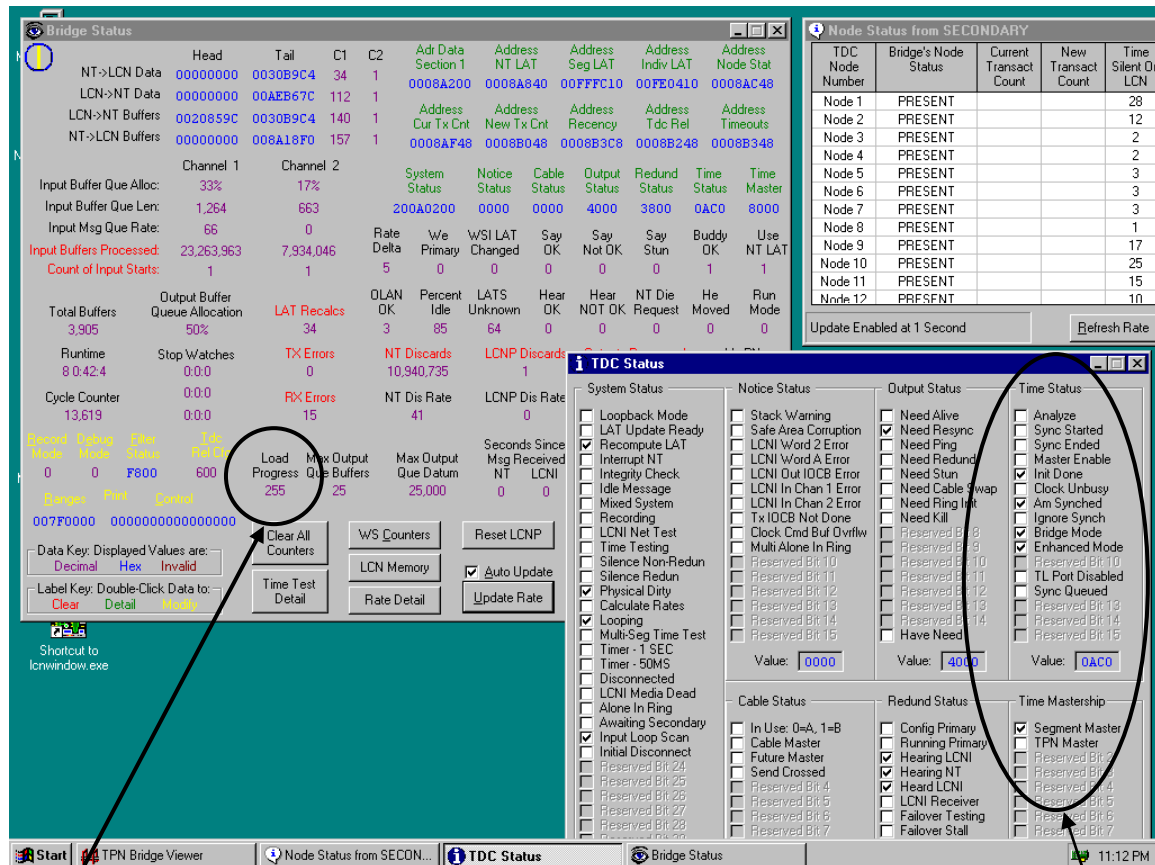
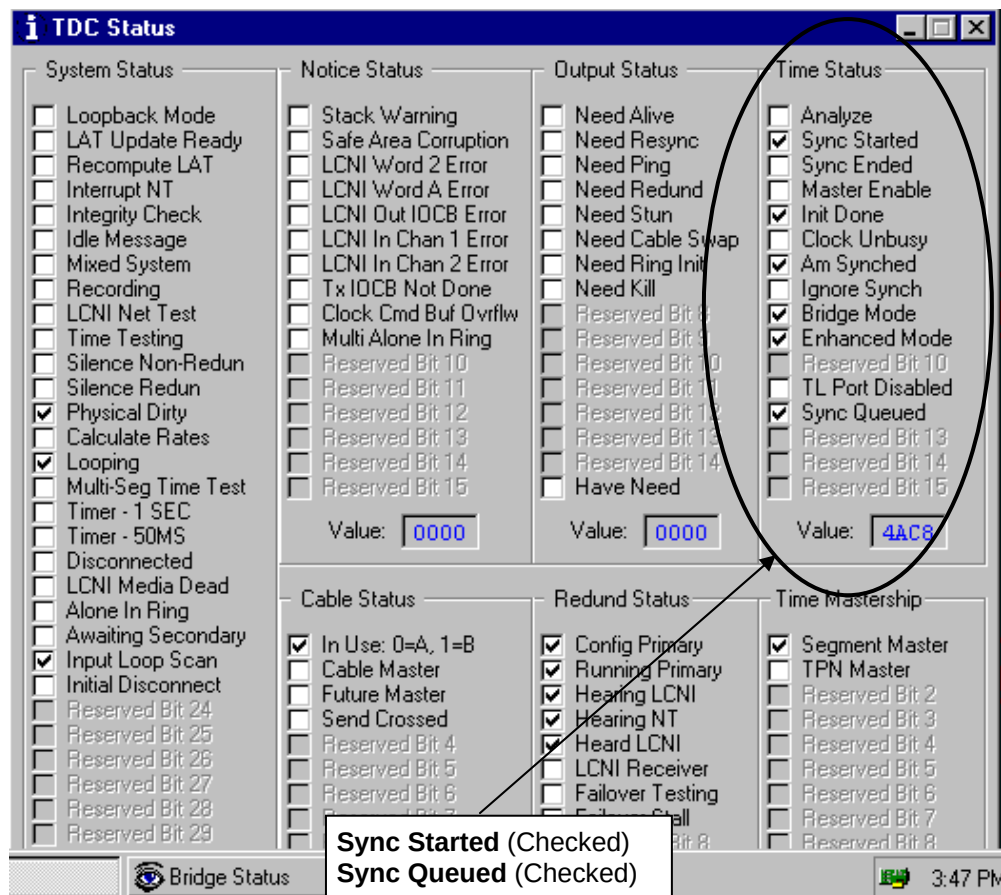

Figure 2-5
Figure 2-6 TDCStatus – Momentary Sync State Change
2. The TPN Bridge Node performs a Sync sequence that can be observed with close observation of the TDC Status display. The sequence is demonstrated in Figure 2-5 and Figure 2-6.
When a Time Link cable connection is made into the Time Link port of a Non-TPN Master TPNB assembly (or TPN Master which is a Secondary Bridge) a sync state change occurs within the TPN Bridge node. This sync state change happens over the period of a small number of seconds from the time that the Time Link cable is inserted (or removed) into/from the Time Link port of the TPNB assembly. The following figure shows a typical change in synchronization state that may be observed (if a user is monitoring the TDC Status Display while a second person performs the Time Link cable insertion). This state change should last a few seconds followed by a return to the normal (steady state) sync state as indicated in Figure 2-5.
NOTE: If a second person monitors the TDC Status display while the Time Link cable is being inserted, the second person should observe a **momentary sync state change** as indicated in Figure 2-6. This should only last for a small number of seconds and then the **status should return to the state shown in** Figure 2-5.